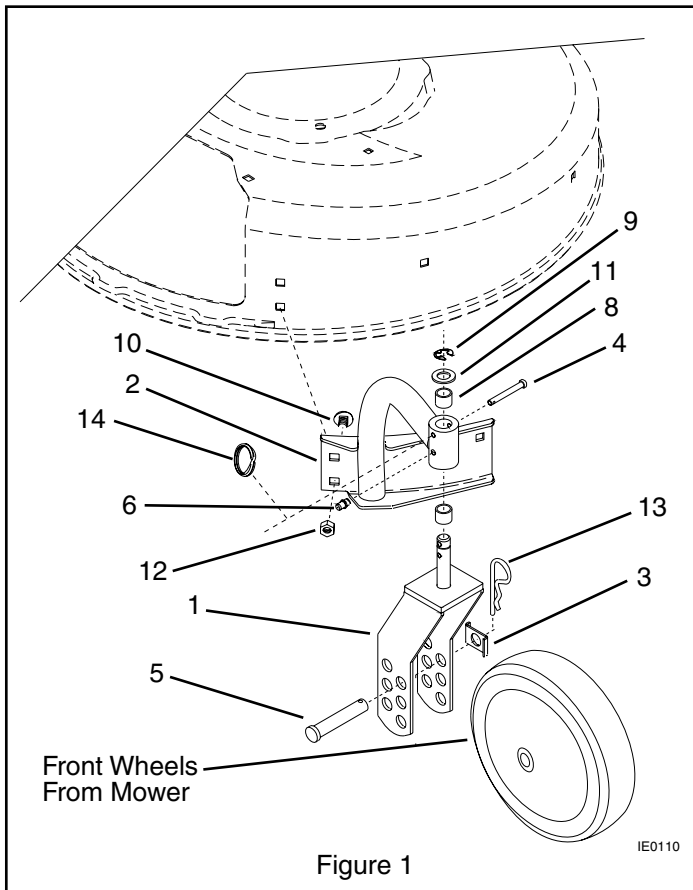

Figure 1
Check the contents of your kit for the parts listed below (Figure 1):
4. Attach right and left hand assemblies to mower deck with (6) carriage bolts and (6) flange whizlock-nuts provided, tighten hardware to 10-12 lbs/ft (Figure 1).
5. Insert front wheels in swivel assembly front yokes using clevis pin, axle tab, and hair pin (Figure 1).
6. Insert clevis pin in either clevis pin storage hole or swivel lock hole. Secure clevis pin with kickout ring (Figure 1 & 2).